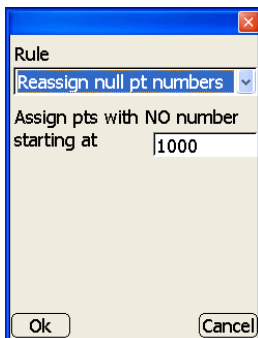

Figure 3-8. Enter Export Rule Parameters
9. On the *Export rules* tab, press **Add** to add an export rule. On the *add export rules* dialog box, enter the following information and press **Ok** (Figure 3-8):